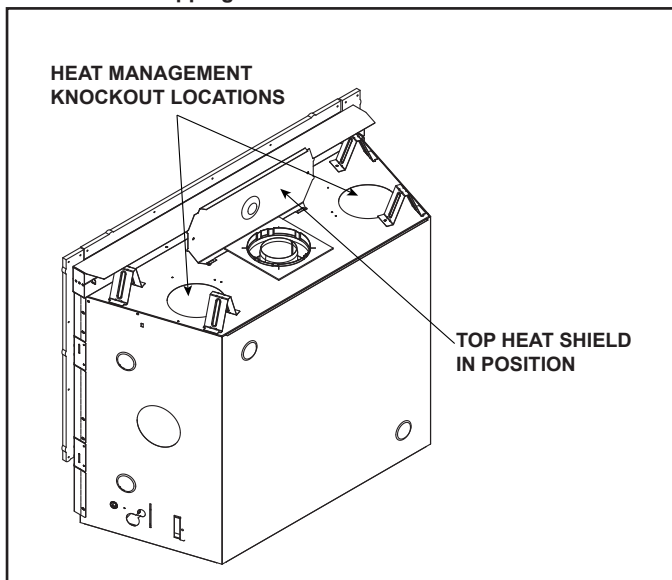

Figure 6.2 COSMO42-IFT-B / COSMO36-IFT-B - Top Heat Shield in Position
2. Fold up top heat shield to 90 degrees as shown in Figure 6.2.
- Locate the two heat management ports on the top of the appliance. Either one or two Heat-Zone® -Gas Kits may be installed. See Figure 6.2. Remove the knockouts from the appliance with a tin snips.